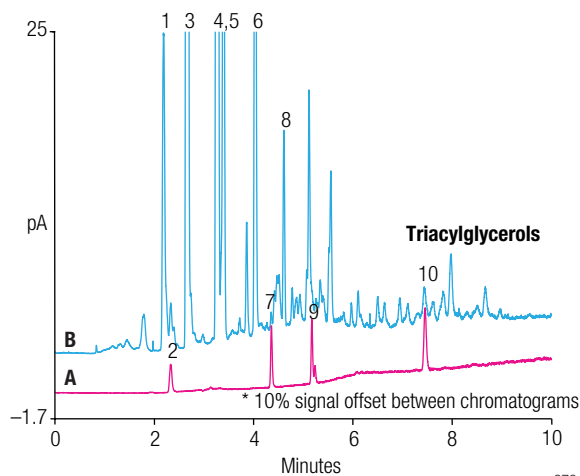

Figure 1. Separation of acylglycerols on the Acclaim RSLC 120 C18 column.
Figure 1 shows the separation of a B99 biodiesel sample produced from used fryer oil (B) and a mixture of acylglycerol standards (A). The triacylglycerols elute later than the fuel methyl esters and are well separated and easily detected using the Thermo Scientific™ Acclaim™ RSLC 120 C18 column and the Thermo Scientific™ Dionex™ Corona™ *ultra*™ Charged Aerosol Detector. The wide dynamic range of the Corona *ultra* Charged Aerosol Detector permits the detection of low-abundance oleoylglycerols in the presence of highly concentrated components in a single analytical run. The use of UHPLC
See Figure 1 for chromatography conditions.